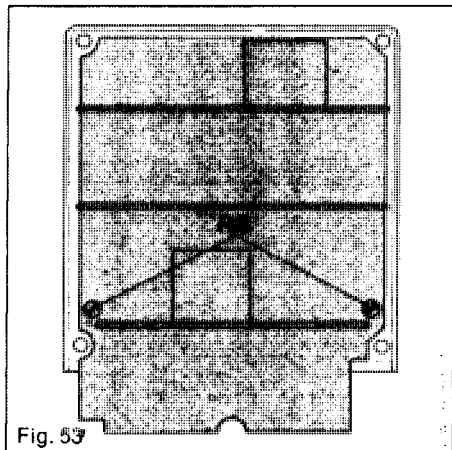

Fig. 53
14.6.5 Change of main switch circuit board (M.S.C.B.) (Fig. 53)